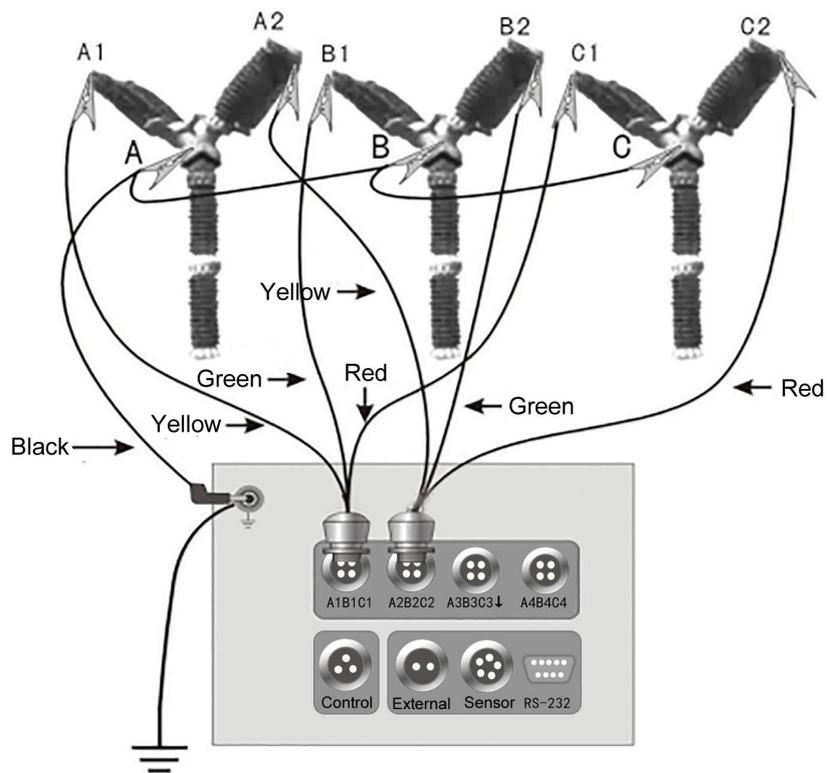

Figure 10. Six switches wiring
② six switches wiring of circuit breaker is shown in Fig 10: